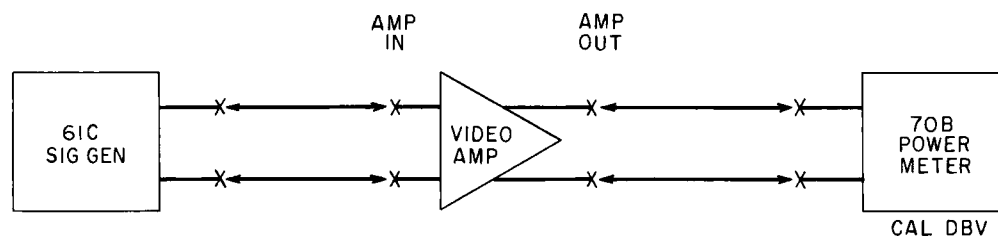

Fig. 22 — Arrangement for Testing Video Amplifier in T3 or R3 Terminal
- (1) Set up test arrangement of Fig. 22.
- (2) Operate the BAL-OPR key on the carrier level control circuit to the BAL position before testing the video amplifier of a T3 transmitting terminal.
- (3) Set the 61C signal generator controls as follows: